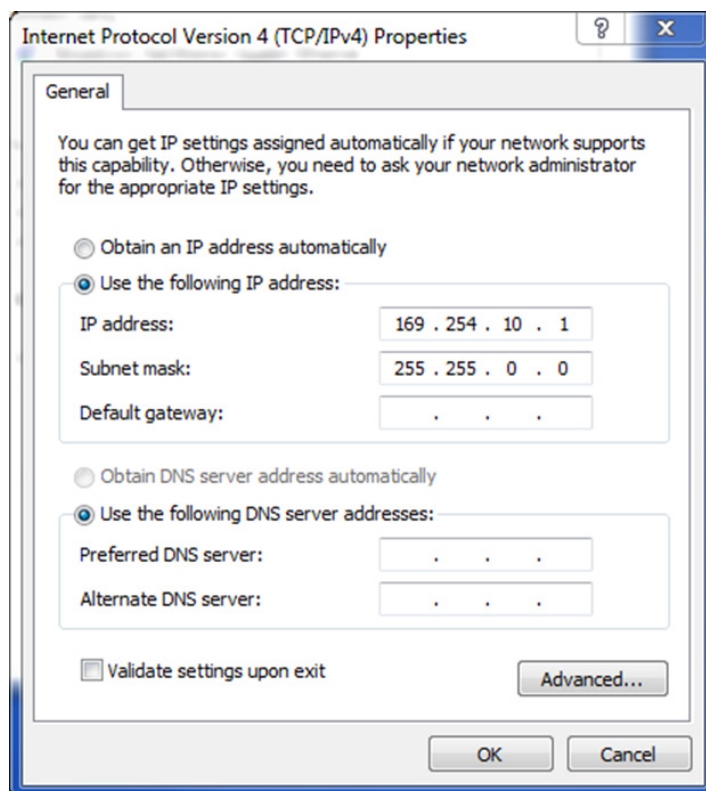

Figure 31 Change IP Address and Subnet Mask of NIC Card.
3. If connecting directly to the computer's Ethernet port, go to the computer's network setting and change the IP address and Subnet mask of the network interface controller (NIC) card you are connecting to as shown in Figure 31 .